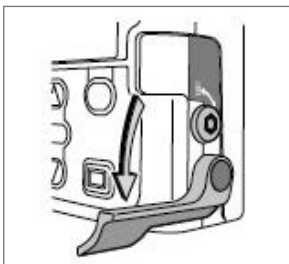

Figure 2: Opening the latch
2. Open the cassette latch. See Figure 2.